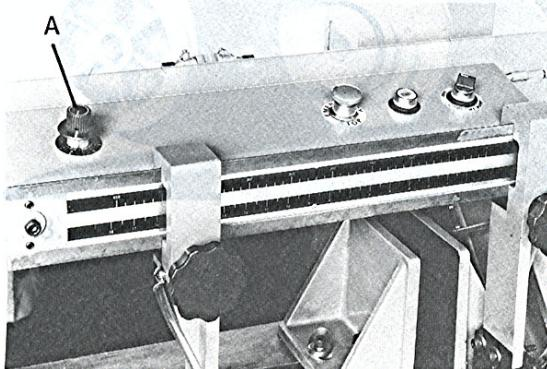

FIG. 5
When the feed rate knob (A) Fig.5, is turned clockwise as far as it will go the saw frame will not move down. By turning the feed rate knob counter clockwise, you regulate the flow of oil from the cylinder and determine the speed at which the saw frame will lower and the blade will feed through the work. Too many factors are involved to make tabulated data practical on feed rates. As a general rule, an even pressure without forcing the blade gives best results. Avoid forcing the blade at the start as this may shorten blade life and produce a bad cut. By inspecting the chips while the cut is being made will indicate whether the feed rate is correct. Fine powdery chips indicate a feed rate which is too light. The teeth are rubbing over the surface instead of cutting. Burned chips indicate excessive feed which causes the teeth to break off as the blade overheats. The ideal feed rate is indicated by chips that have a free curl and this will give the fastest cutting time and longest blade life.